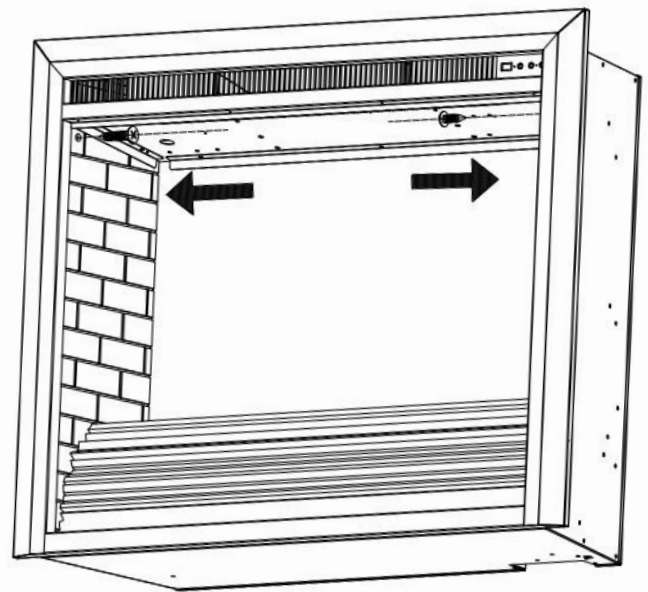

Fig. 9
- Fixing it by two screw(s), one piece with each side. (Fig 9)